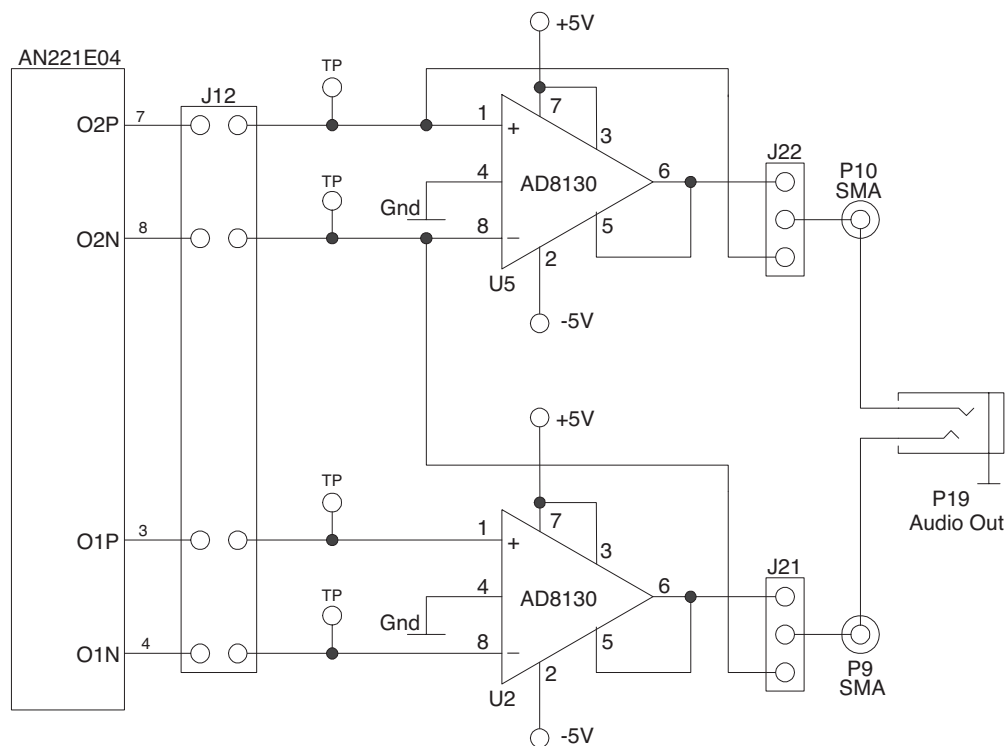
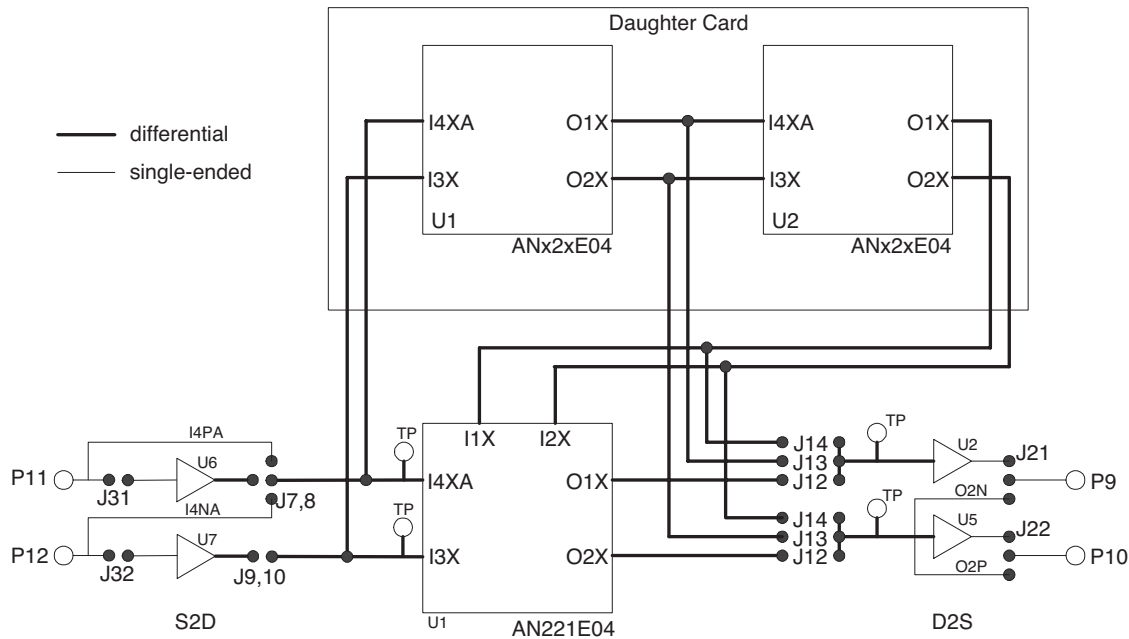

Figure 7 – Differential to Single-Ended Converters
Figure 13 – Analog Signal Routing
1. Single-ended ground referenced signals can be output on SMA connectors P9 and P10. By default the SMA connector P9 (P10) is connected to a differential to single-ended converter that is connected to O1P and O1N (O2P and O2N) of the AN221E04 device. There are two differential to single-ended converters on this board as shown in Figure 7.
These jumpers connect the SMA connector P11 to pins I4PA and I4NA of the AN221E04 via a single-ended to differential converter. A jumper must be placed on both J7 and J8 (in parallel, vertically on the board) to do this. If the jumpers are placed in line (horizontally on the board); SMA connectors P11 and P12 will be connected directly to I4PA and I4NA respectively, bypassing the S2D converter. This would be done in order to input a differential signal from an AN221E04 on another board via the SMA cable. Note that in this situation, the user should also remove jumpers J31 and J32. It is important that the user should leave jumpers J7 and J8 open if he wishes to apply signals directly to I4PA and I4NA via the AN221E04 header pins. Figure 13 illustrates how the analog signals are routed.
J12, J13 and J14 each consist of 8 pins arranged in 4 pairs that take 4 jumpers horizontally. Only one of J12, J13 and J14 should be populated with jumpers at any time. J12 connects the outputs of the motherboard device to the differential to single-ended converters e.g. when using only a motherboard device or when using a chain of 3 devices consisting of the daughter card followed by the motherboard device. J13 should be used if the outputs of the first daughter card device are required to be output through the differential to single-ended converters. J14 should be used if the outputs of the second daughter card device are required to be output through the differential to single-ended converters. Figure 13 illustrates how the analog signals are routed.
The user should place a jumper in the upper position on the board to connect SMA connector P9 to the differential to single-ended converter that is connected to O1P and O1N of the AN221E04. The user should place the jumper in the lower position to connect SMA connector P9 directly to output O2N, bypassing the differential to single-ended converter. This would be done in conjunction with J22 in order to output a differential signal from the AN221E04 to an AN221E04 on another board via SMA cable. Figure 13 illustrates how the analog signals are routed.
The user should place a jumper in the upper position on the board to connect SMA connector P10 to the differential to single-ended converter that is connected to O2P and O2N of the AN221E04. The user should place the jumper in the lower position to connect SMA connector P10 directly to output O2P, bypassing the differential to single-ended converter (see Figure 7). This would be done in conjunction with J21 in order to output a differential signal from the AN221E04 to an AN221E04 on another board via SMA cable. Figure 13 illustrates how the analog signals are routed.